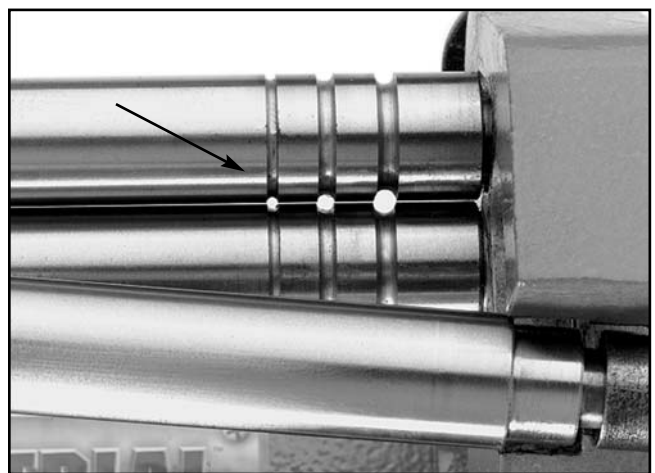

Figure 3. Wire grooves.
1. To form wires, select the smallest groove that you can use (see grooves shown in **Figure 3**) and put the edge of that wire on the groove of the front movable shaft.